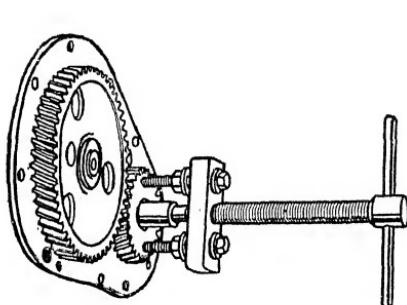
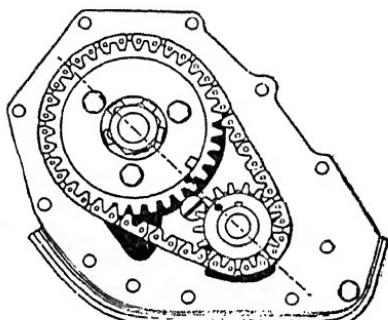

Fig. 6. After the Timing Gear Cover Is Off,
Fig. 7. Inspect Chains and Sprockets to Learn
**Removing Timing Gears.** Make a careful inspection of the timing gears to see how they are marked. Sometimes chains are used in connection with sprockets, rather than the timing gears, illustrated in Fig. 6. If the chain has been used, wipe the oil from it and the sprockets and see whether you can locate the timing marks. These will be apparent in most cases. Refer to Fig. 7, which illustrates this type of construction and one method of marking. When inspecting timing-gear marks, the engine should be placed with piston No. 1 on top dead center, the exhaust valve just closing and the intake valve just starting to open. The marks should then coincide. Cam gears are bolted to the end of the camshaft. As a rule, it is not necessary to remove the cam gear.
The crankshaft gear is, in most cases, a press fit on the end of the crankshaft, a key being used to prevent its turning on the shaft. Fig. 6 illustrates the use of a gear puller. This may be purchased or may be made up, as occasion warrants. Under no circumstances